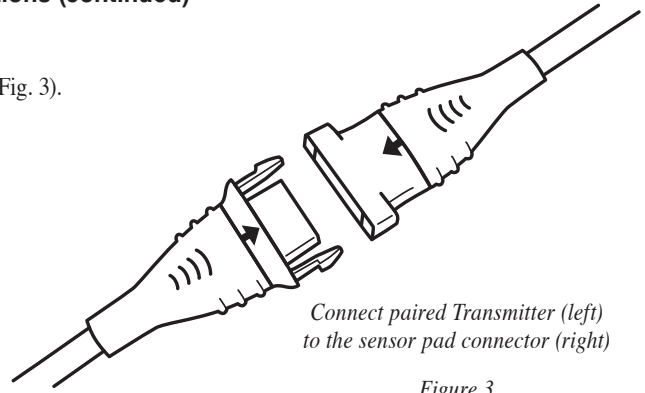

Figure 3
1. Connect the paired Transmitter to the sensor pad aligning arrows on each connector (Fig. 3).